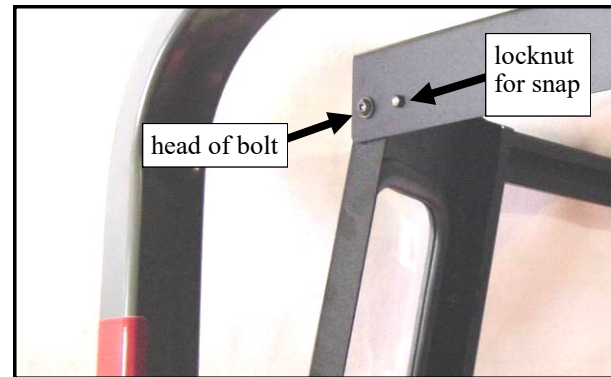

Fig. 4.1 (view from right side of tractor)
4.1 Per fig. 4.1 and with assistance, install the rear cross brace oriented so snaps are inside the cab and the locknuts holding the snaps are outboard as shown. Use the following hardware to attach the brace to the top rear of each side frame: a 5/16 x 3/4" long hex flange bolt, plastic washer and locknut. The heads of the bolts are to be outside (locknuts inside the cab). Do not tighten the bolts. Repeat for right side frame attachment.